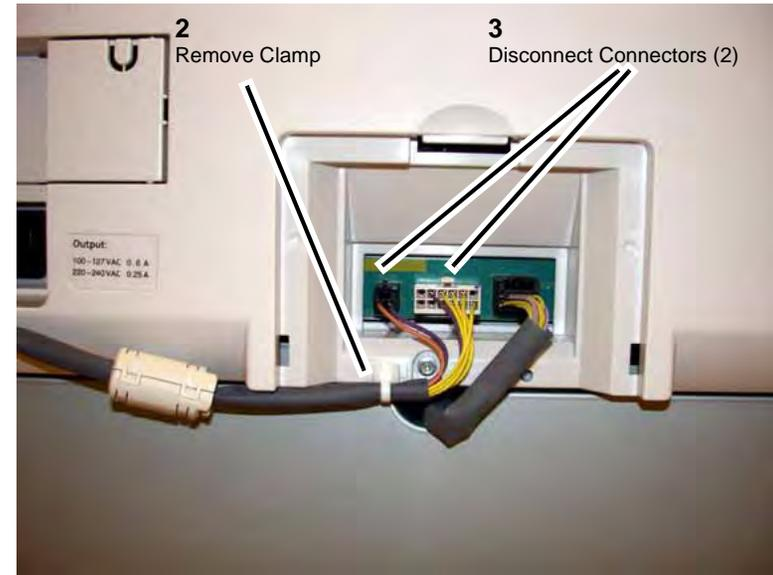

Figure 2 Disconnect Connectors
- (2) Remove Clamp. (Figure 2)
- (3) Disconnect Connectors (2). (Figure 2)